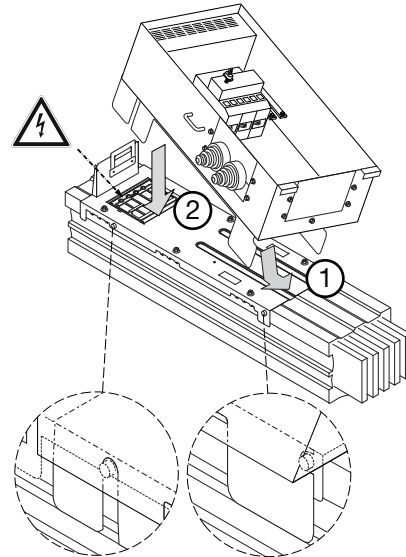

Fig. 6: Adjusting the AKM (1,2)
- For final attachment, adjust the AKM using the fixing bolts of the mounting aid (see Fig. 6). Please note that here too, depending on the national regulations, the tap-off sites of the busbars may be live (see warning symbol).